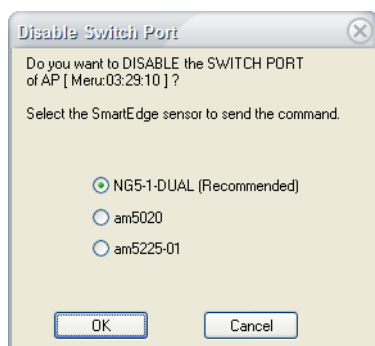

Figure 8-5: Disable Switch Port options
- 2) In the Rogue (ALL) section, click **Disable Port**. Select the desired method of disabling the port. See Figure 8-5.